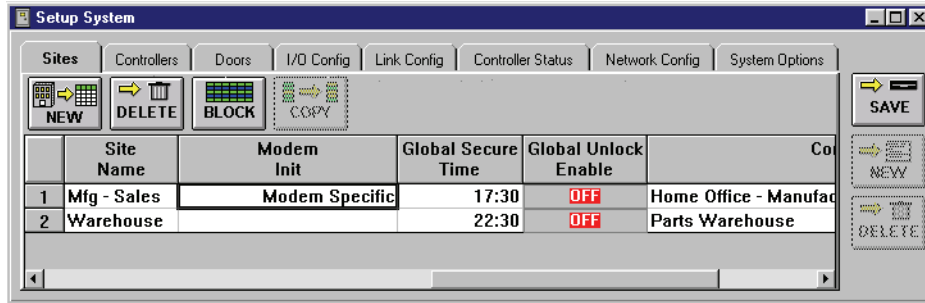

Figure 8-11: Block Selected Data Ready for Copying
2. Click on the  button (see Figure 8-11).